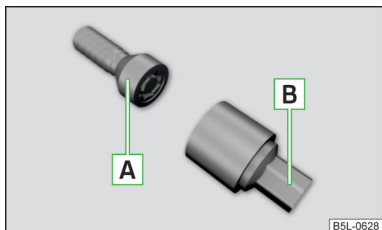

Fig. 321
The anti-theft wheel bolts protect the wheels from theft. The upper section **B** » Fig. 321 must be used to **loosen/tighten** these.
- › Push the wheel wrench onto the wheel bolt to the stop. Use the associated upper section for the anti-theft wheel bolts » Fig. 321 on page 282.